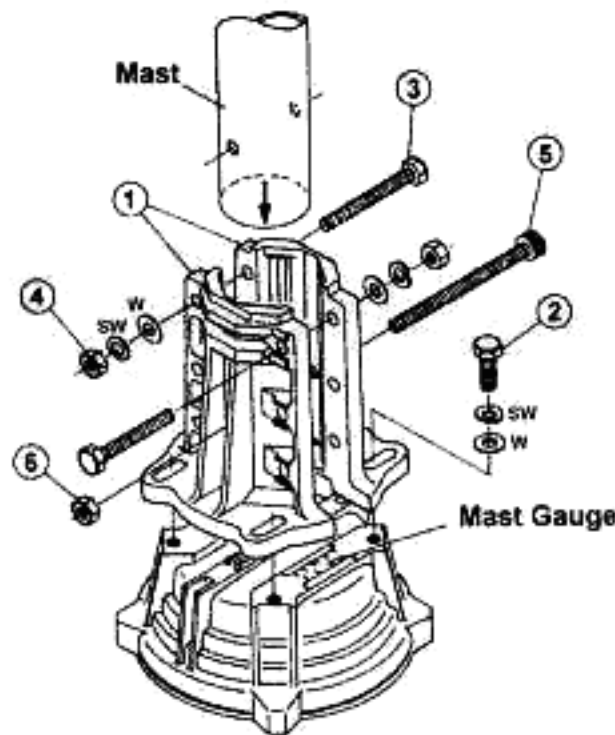

Figure 13
4. Partly tighten the mast clamp ① to the rotator housing using the supplied M8 x 30 bolts ②, spring washers and flat washers (see Figure 13).
5. Using a "gin pole" or other raising fixture, insert the antenna mast through the bearing from above, and set the mast in the rotator's mast clamps, then partly tighten the mast clamps using the supplied M8 x 70 bolts ③, spring washers and flat washers.
6. Pass the supplied M8 x 95 screw ⑤ through the mast clamps and through the mast, then partly tighten it using the supplied nut ⑥.